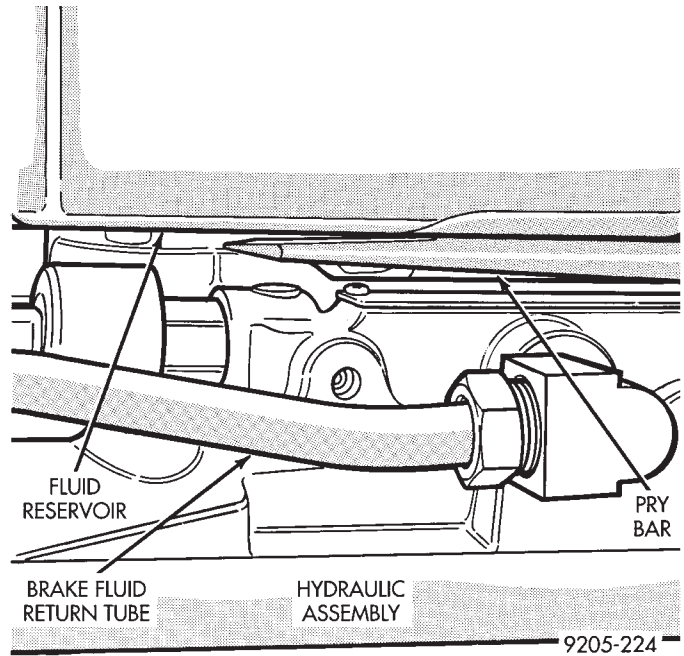

Fig. 12 Remove Reservoir From Hydraulic Assembly
(5) Remove reservoir from hydraulic assembly by CAREFULLY prying between reservoir and hydraulic assembly with a blunt prying tool (Fig. 12). Use a rocking motion to help disengage reservoir from grommets while prying. **BE EXTREMELY CAREFUL TO AVOID DAMAGING OR PUNCTURING RESERVOIR DURING THIS PROCEDURE.**